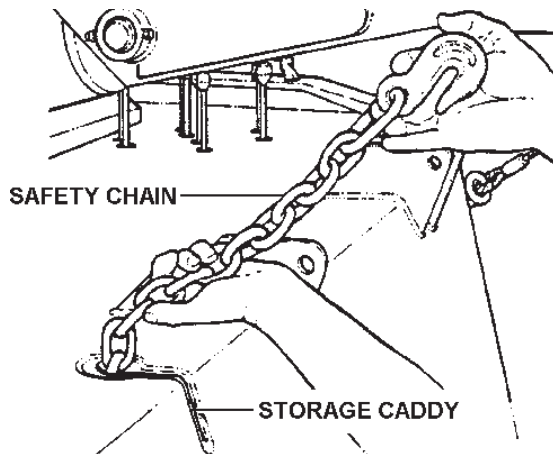

FIGURE 4.7
- (a) Extend free end of Safety Chain from storage caddy at top rear of wrecker body. See Figure 4.7.